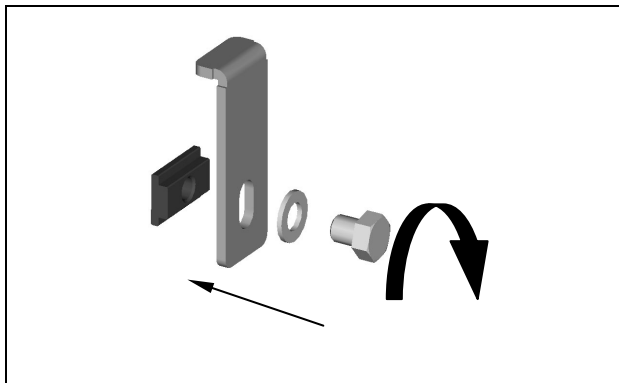
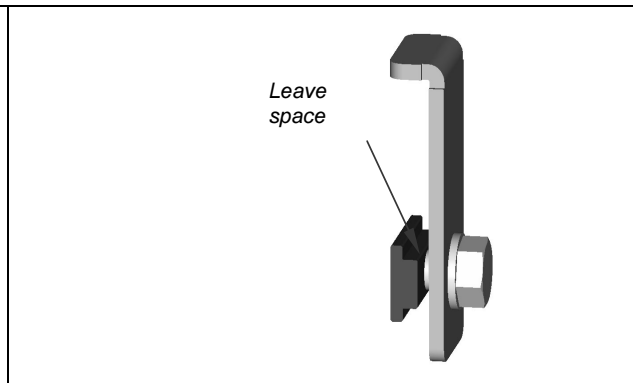

Fig. 1
Fig. 2
Build the subassembly as shown in Figs. 1 and 2, but do not completely tighten the screw ⑤ on the slot nut ③, leaving space between parts ② and ③ (see Fig. 2).